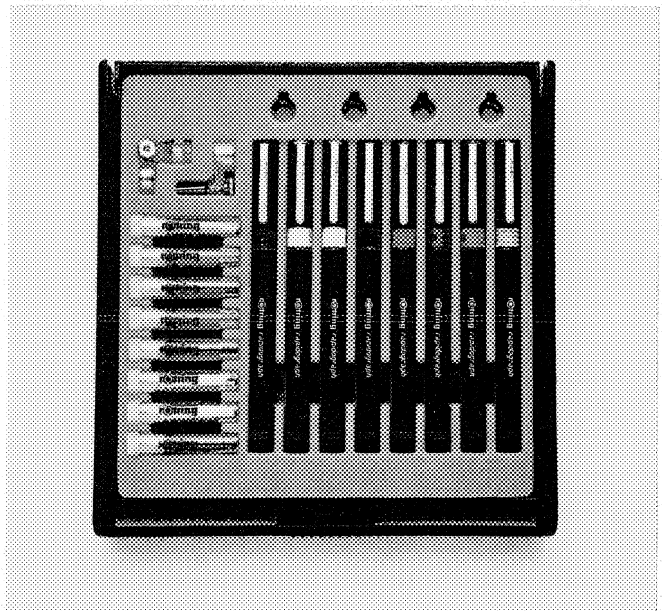

FIGURE 6.48 Technical Pens
**Technical pens**, like the sets shown in Figure 6.48, although expensive, have replaced all other forms of inking tools. Technical pens come in a wide range of pen widths (diameters) (Fig. 6.49), and each pen width corresponds to a metric thickness. Inked projects may include diagrams and pictorials for technical manuals, sales brochures, and graph and chart presentations. In general, technical pens in 0.25, 0.35, 0.45, 0.50, and 0.70 mm widths are used for such